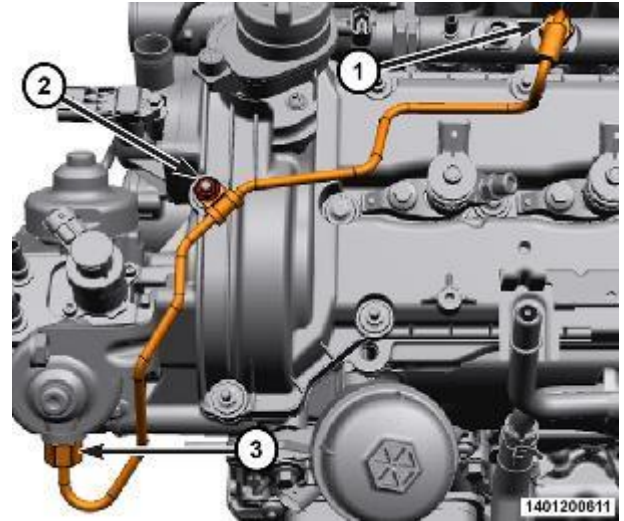

Figure 182 – Left Fuel Rail Supply Tube
18. Unscrew the fuel tube union nut from the fuel injection pump (3) (Figure 182).
19. Remove the fuel tube bracket nut (2) securing the fuel tube (Figure 182).
20. Unscrew the union nut from the fuel rail (1) and remove and discard the fuel tube (Figure 182).